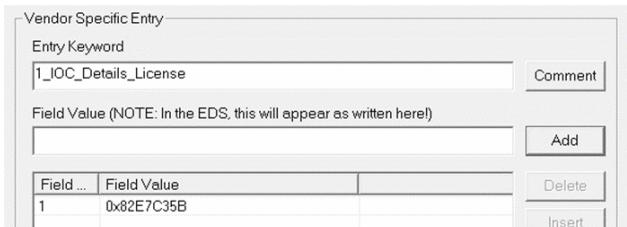

Figure 10: Add-On-Profile (AOP) Key / License in EDS file – Unlocks additional features e.g. showing real data types instead of an unspecific data array
**Remark:** The Add-On-Profile (AOP) key to unlock additional features is integrated in the EDS file of the Dimetix laser sensor (see figure 10 for this information). No action needs to be taken.